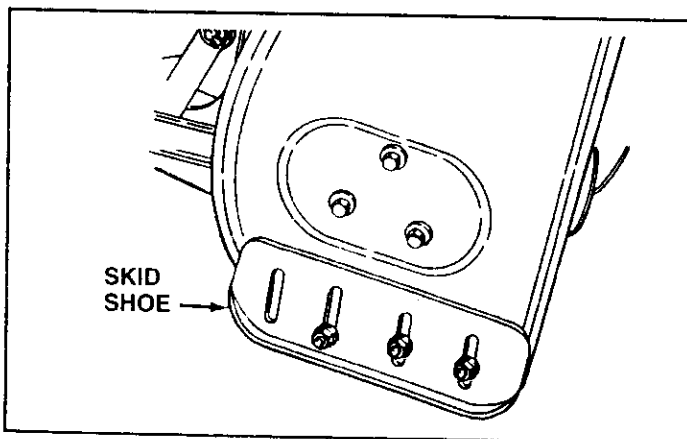

FIGURE 36
(Refer to figures 36 and 37 on page 20.)
- Raise the snow thrower off the ground and place a block under each end of the scraper plate. Loosen the six hex nuts securing the skid shoes to the housing. Adjust the skid shoes up or down and retighten the nuts securely. Adjust both skid shoes to the same height to keep the housing and the scraper plate level. See figure 36.